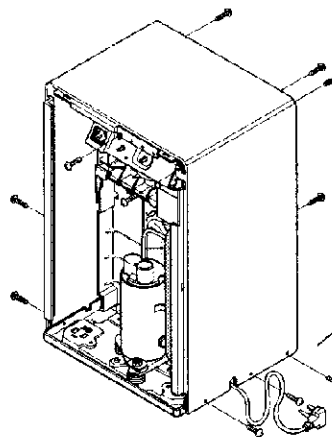

Figure 7
2. Remove the two screws that hold Control box. (See Figure 7.)
3. Remove the nine screws shown in Figure 7.